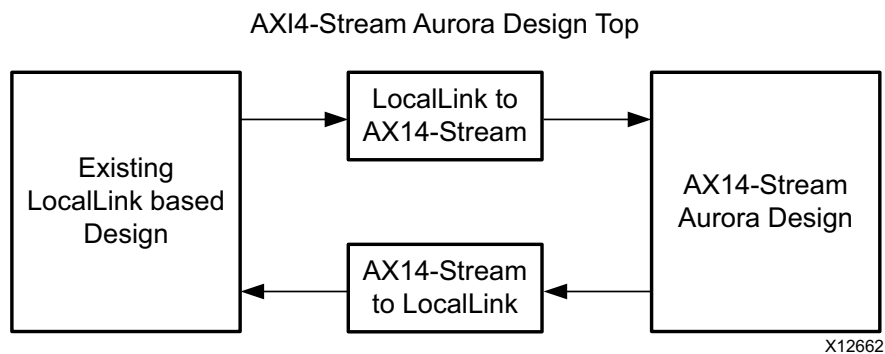

Figure B-2: AXI4-Stream Aurora 64B/66B Example Design
Figure B-2 shows an example Aurora 64B/66B design using the AXI4-Stream interface.
2. See Figure B-2, page 106 for the emulation of a LL Aurora 64B/66B core from a AXI4-Stream Aurora 64B/66B core.
5. Connect the shim and AXI4-Stream Aurora 64B/66B design as shown in Figure B-2, page 106.